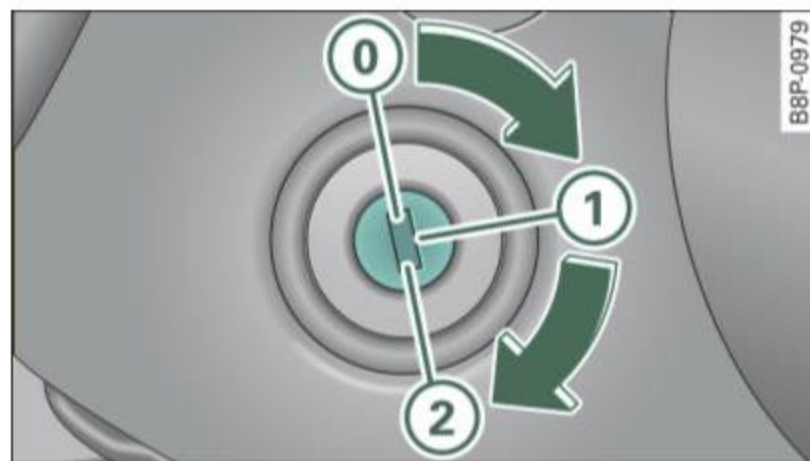

Fig. 133 Ignition lock positions
In position ⇒ fig. 133 ① both the ignition and engine are off, and the steering is locked.
- Turn the ignition key to position  ⇒ page 134, fig. 133 - do not depress the gas pedal when starting the engine!
- Turn the ignition key to position  ⇒ page 134, fig. 133.